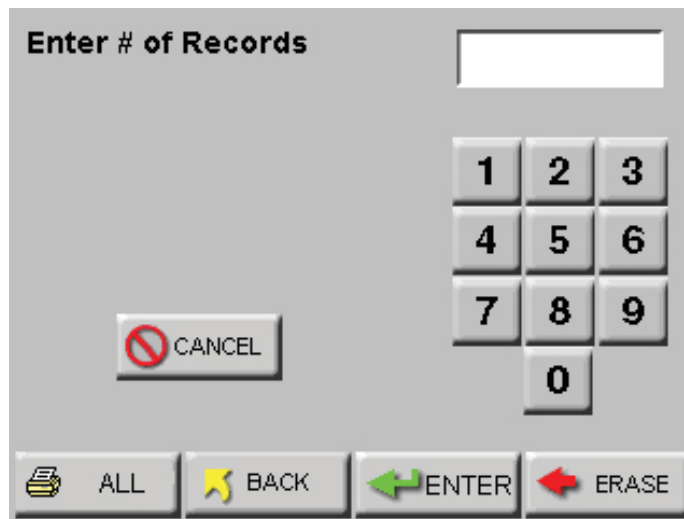

Figure 6-84 Print Range Screen - Buffer
- Press the RANGE button. The Print Range screen will display as shown in Figure 6-84.